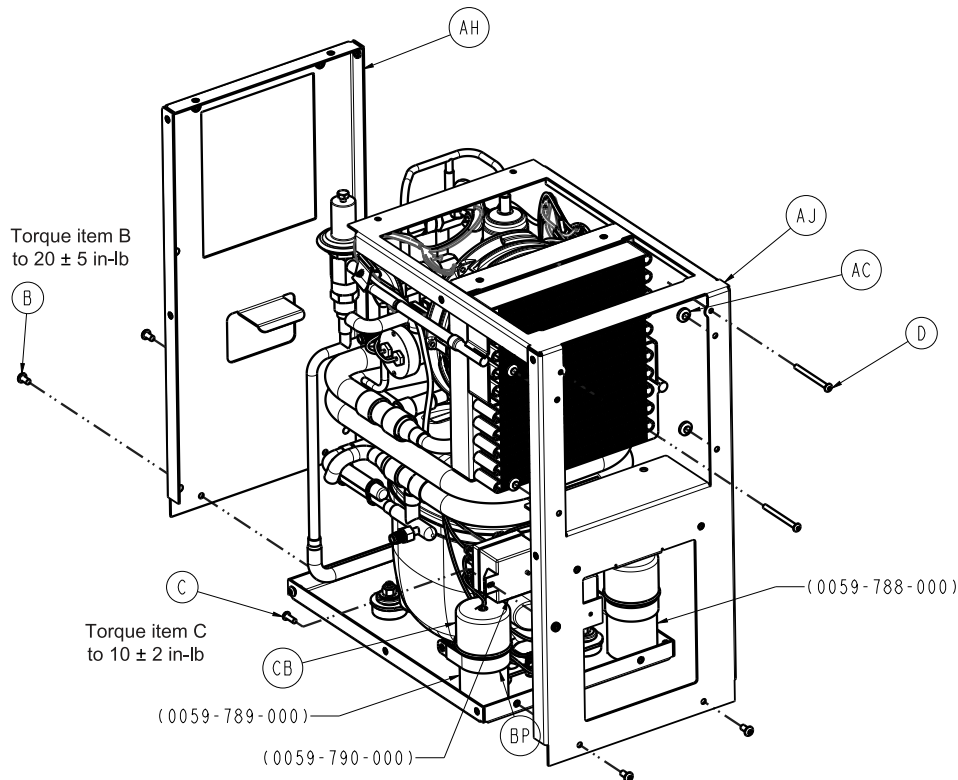

Figure 26 – Fan assembly
14. Using a 3/32" hex wrench, remove the two screws (D) that secure the fan assembly to the frame (Figure 26). Save the screws.